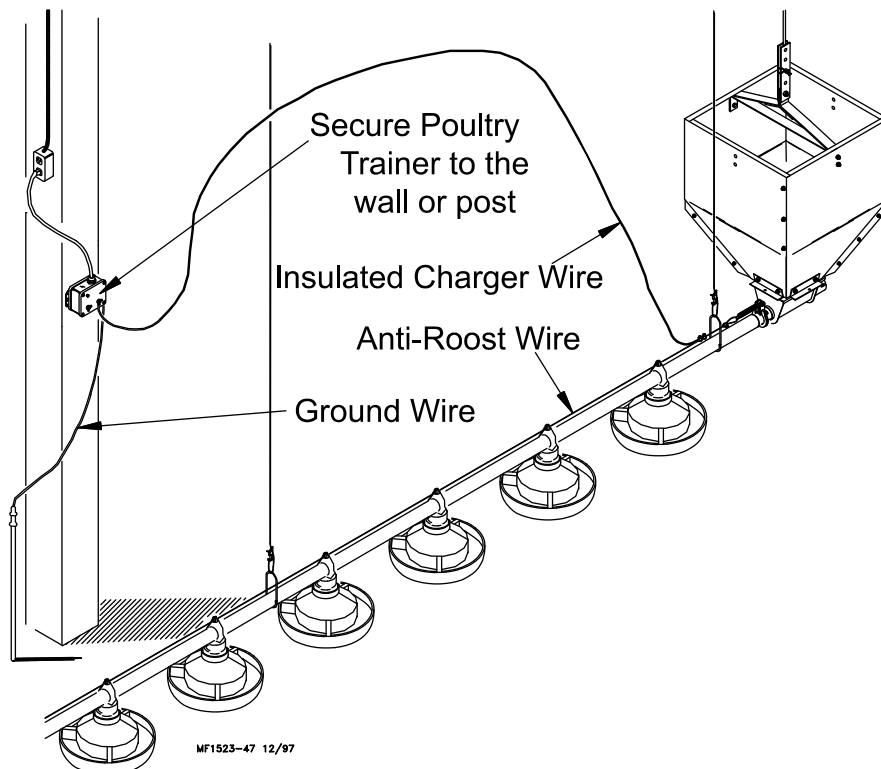
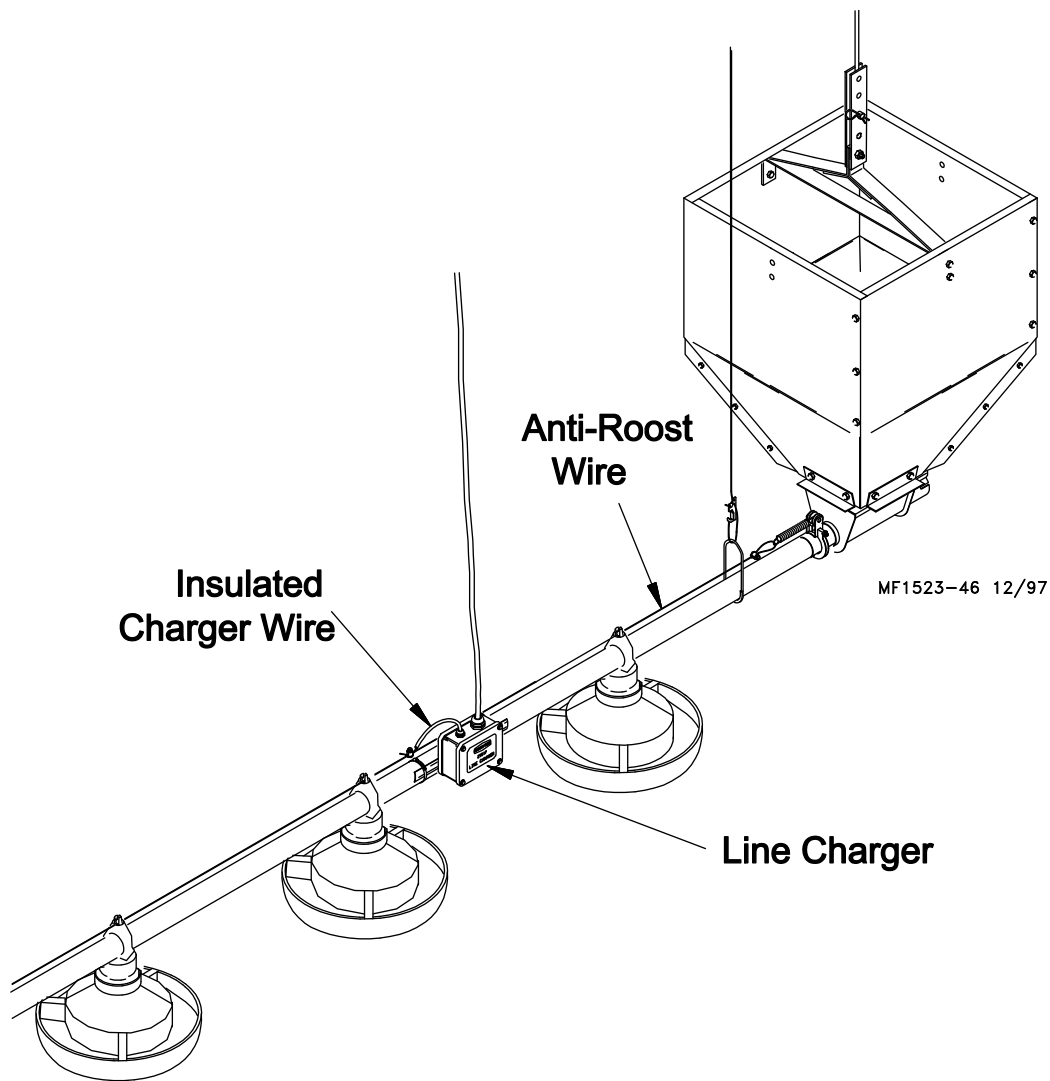

Figure 50. Poultry Trainer Installation
Figure 51. Line Charger Installation
11. Install the Poultry Trainer or Line Charger, as shown in **Figure 50 or 51**. The Poultry Trainer is used to power all Anti-Roost lines in a house. See **Figure 50**. The Line Charger is used to power individual Anti-Roost lines in a house. See **Figure 51**. Route the charger wire from the Poultry Trainer or Line Charger to the Anti-Roost system. Secure the Charger Wire to the Anti-Roost cable, using a cable clamp.